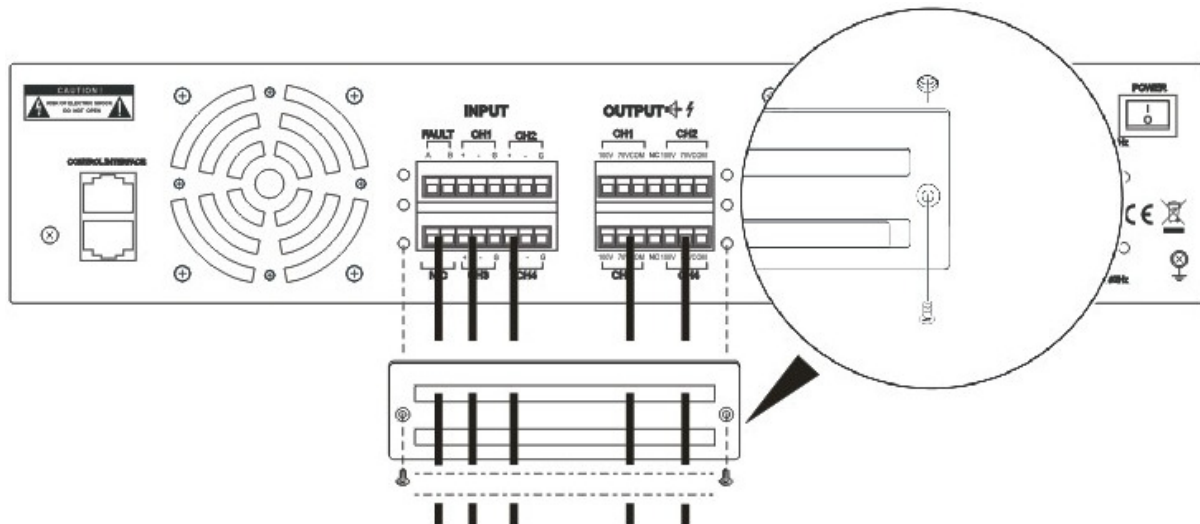

Figure 10 Attaching the terminal protection cover
4. Attach the terminal protection cover, and tighten the screws as show in Figure 10.